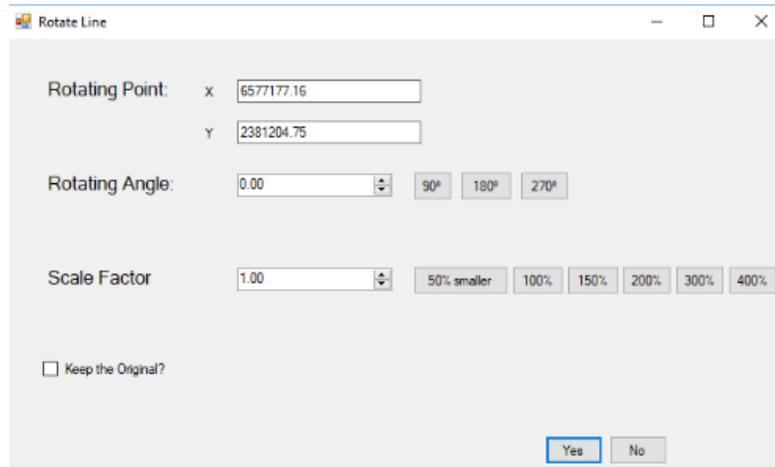

Figure 3-10. Rotate or scale a line.
2. Click the rotate/scale button . A form will appear (Figure 3-10).